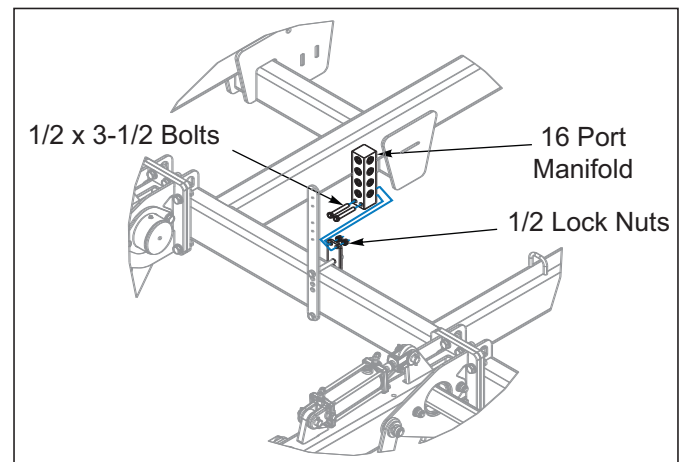

Figure 3-40: 16 Port Manifold Installation
10. Attach the 16 port manifold to rear tube of center frame using 1/2 x 3-1/2 bolt and 1/2 lock nuts See Figure 3-40.